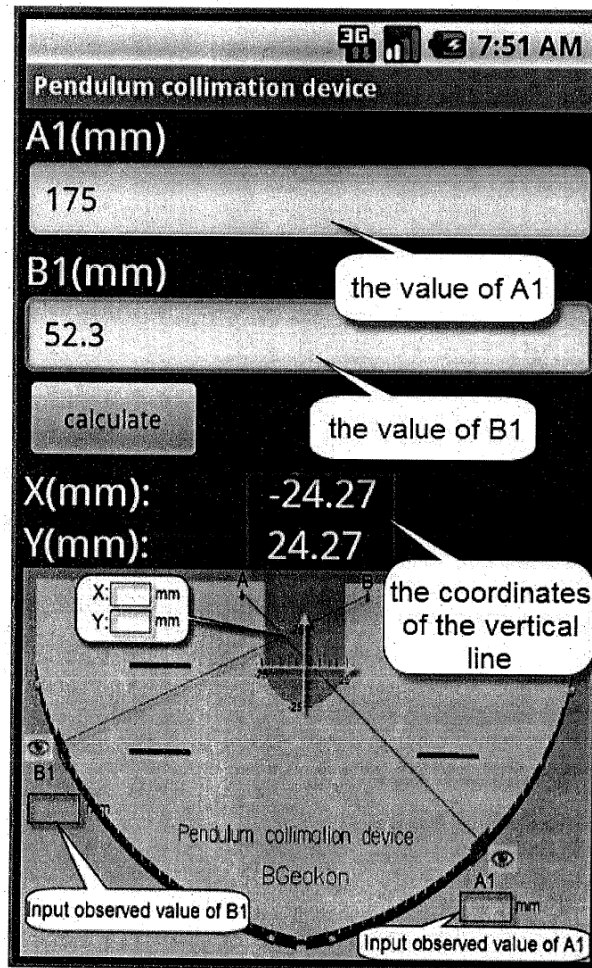

Figure 4 – Screen-Shot of the Android Software Output
- 4 The calculation of the X and Y coordinates is done by software loaded as an app onto an Android smart phone. The software can be down-loaded off the Geokon website. Selecting the App brings up the screen-shot shown in Figure 4. Using the touch screen enter the values of A1 and A2 in millimeters and then touch the 'calculate' icon whereupon the X and Y coordinates appear in the center of the screen.